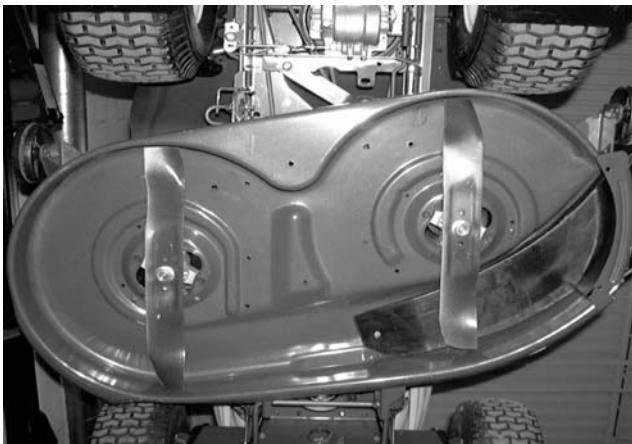

Figure 9-1.
1. Using a work glove or rag, rotate the blades until they are parallel with the tractor frame. See Figures 9-1 and 9-2.